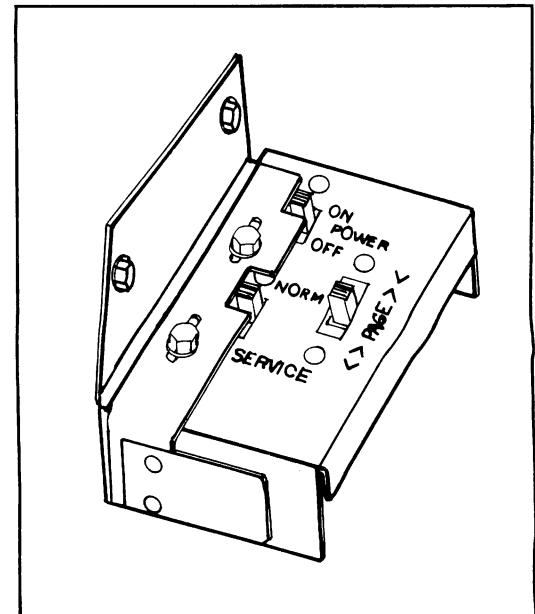

Figure 2-5 Service Switch
2. Move the SERVICE switch to the SERVICE position, if not already done (refer to figure 2-5).